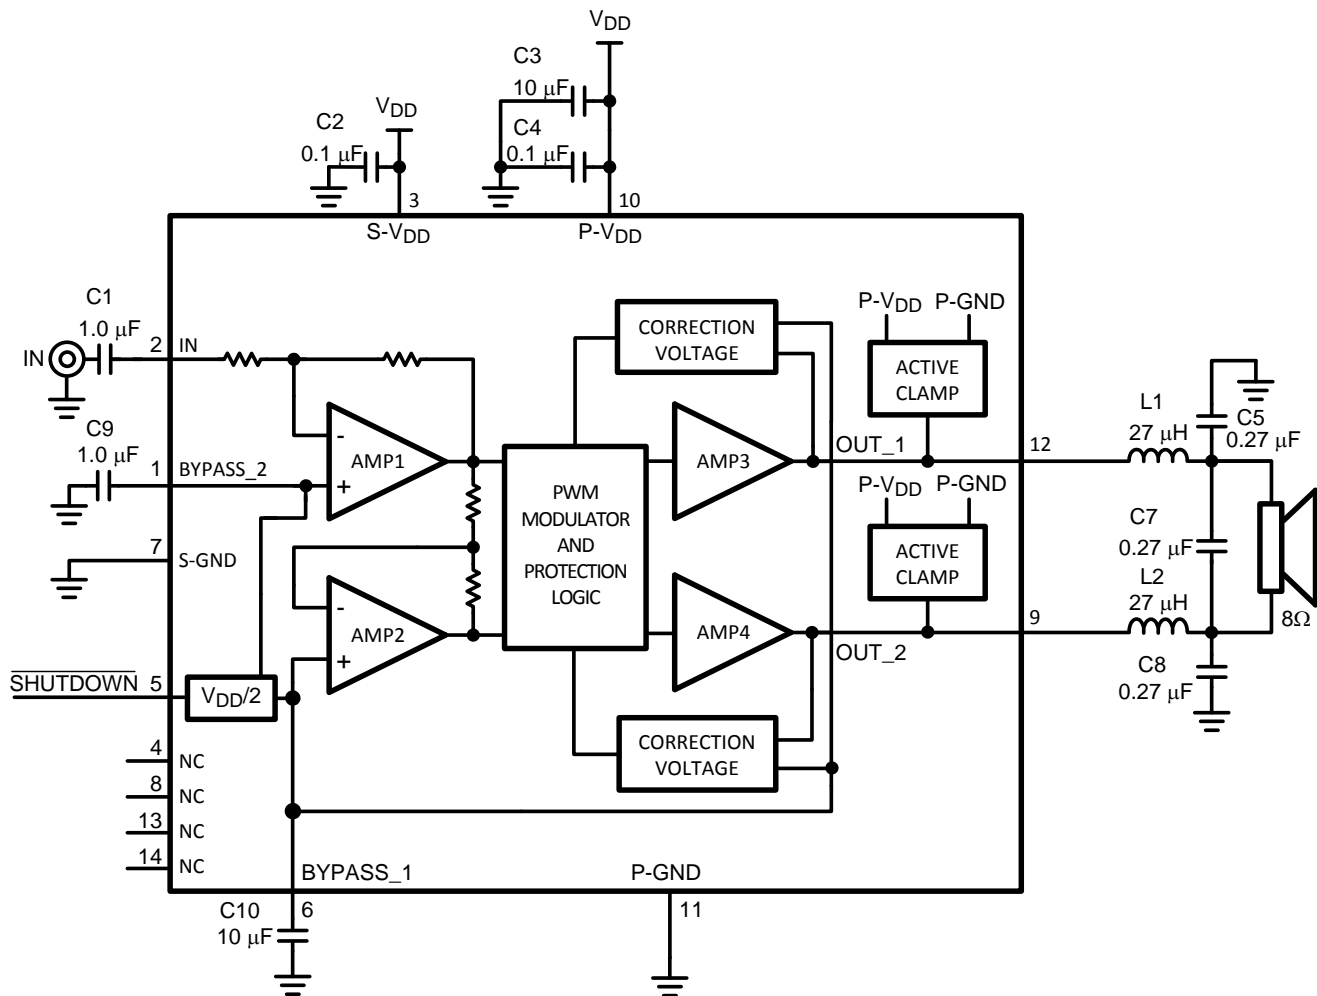

Figure 2. Typical Audio Amplifier Application Circuit
- (1) All voltages are measured with respect to the GND pin unless otherwise specified.
- (2) Absolute Maximum Ratings indicate limits beyond which damage to the device may occur. Operating Ratings indicate conditions for which the device is functional, but do not ensure specific performance limits. Electrical Characteristics state DC and AC electrical specifications under particular test conditions which specify performance limits. This assumes that the device is within the Operating Ratings. Specifications are not ensured for parameters where no limit is given, however, the typical value is a good indication of device performance.
- (3) The maximum power dissipation must be derated at elevated temperatures and is dictated by  $T_{JMAX}$ ,  $\theta_{JA}$ , and the ambient temperature  $T_A$ . The maximum allowable power dissipation is  $P_{DMAX} = (T_{JMAX} - T_A)/\theta_{JA}$  or the number given in Absolute Maximum Ratings, whichever is lower. For the LM4680 typical application (shown in Figure 2) with  $V_{DD} = 12V$ ,  $R_L = 8\Omega$  stereo operation, the total power dissipation is 900mW.  $\theta_{JA} = 40^\circ C/W$
- (4) Human body model, 100pF discharged through a 1.5k $\Omega$  resistor.
- (5) Machine model, 220pF – 240pF discharged through all pins.
The following specifications apply for the circuit shown in Figure 2 operating with  $V_{DD} = 12V$ ,  $R_L = 8\Omega$ , and  $f_{IN} = 1kHz$ , unless otherwise specified. Limits apply for  $T_A = 25^\circ C$ .